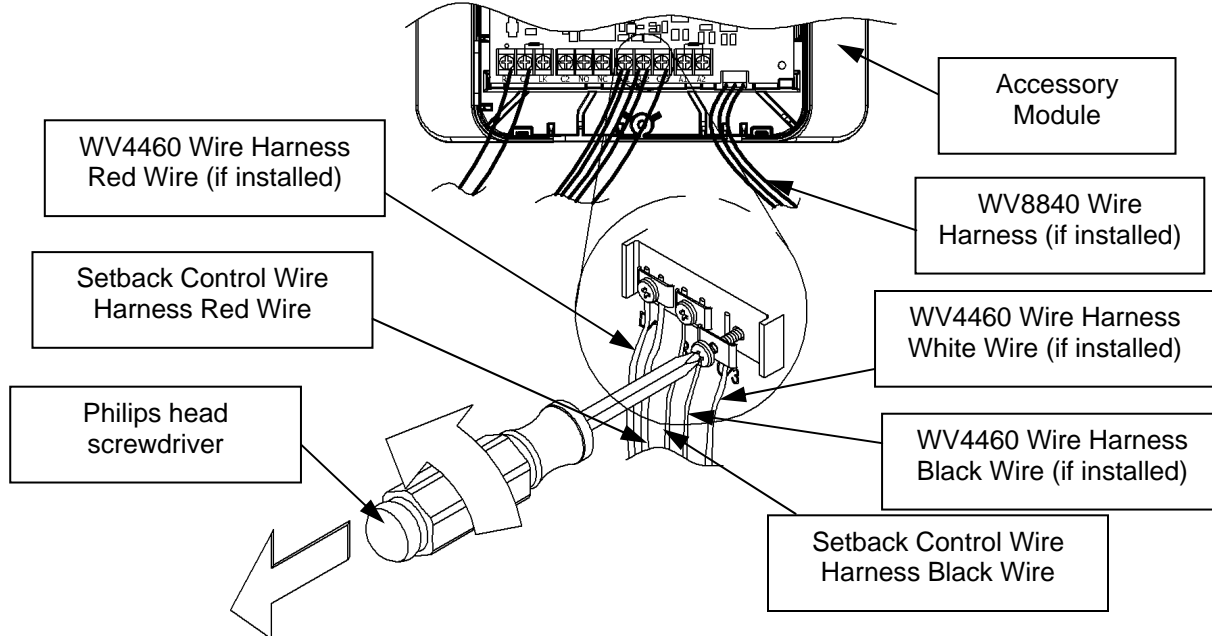

Figure 48
Step 21: If the water heater gas control has an intermittent pilot (WV4460 gas control), the connection, "C/3," is already being used. This same connection point is used to connect the Setback Control. Loosen the screw "C/3." This is shown in Figure 48.